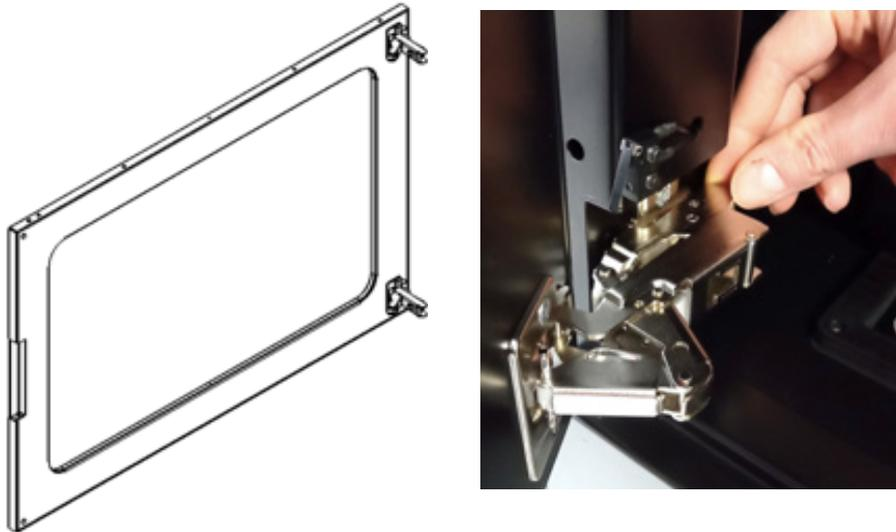

Figure 7: Removing the door of Magna
- Remove the door of the printer by unclipping the hinges (Figure 7). Be careful to support the weight of the door at all times. This is a two-person task.